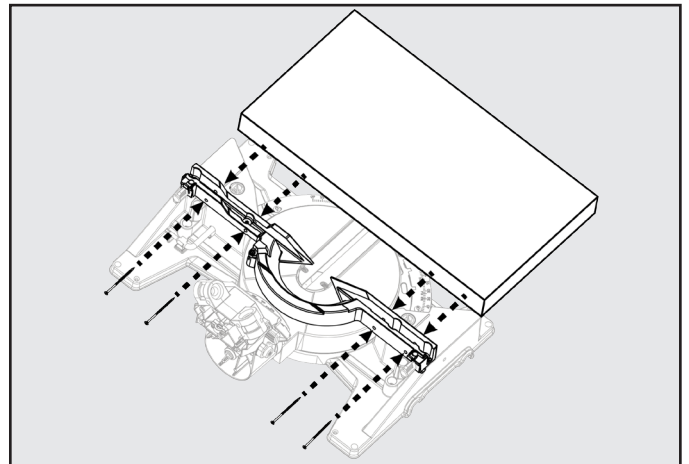

Figure 27
2. Flip the support tabs (C & D) into position. Tabs (D) are on both the left and right sides of the lower (fixed) fence. Tab (C) only exists on the right side of the lower (fixed) fence. These will function as your workpiece backstop. See Figure 27.
3. You will need to add an auxiliary table board to (E) support your large capacity workpiece (F). Place the 2" x 12" auxiliary table board (E) onto the saw table and against the lower (fixed) section of the saw fence. Make sure the board is securely positioned against the lower (fixed) fence.
**NOTE:** Use wood screws to secure the auxiliary table board (E) to the lower (fixed) fence. See Figure 27.